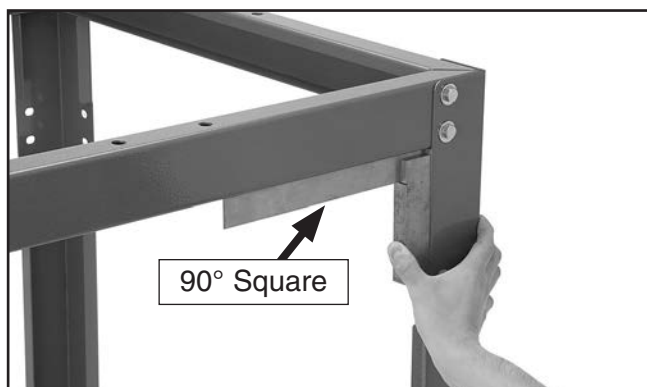

Figure 7. Squaring stand assembly before tightening stand hardware.
4. Square up the stand, as shown in **Figure 7**, and tighten all nuts and bolts.